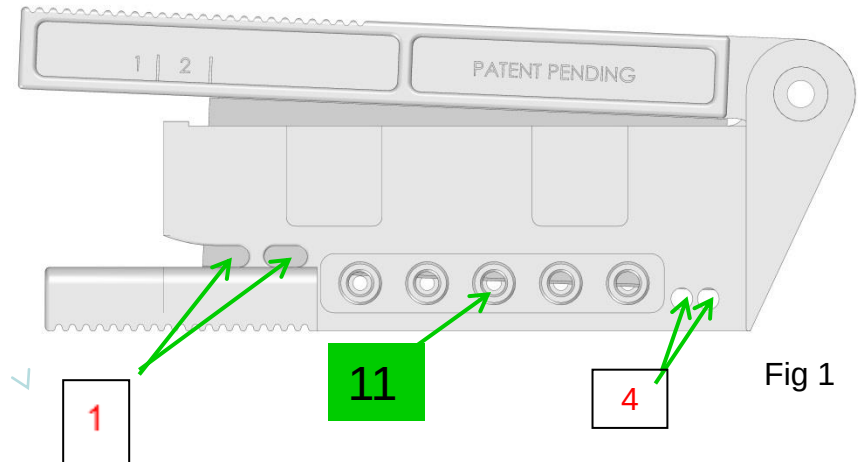

Fig 1
If necessary, use the tool to cut the plastic optical fiber from the cable spool or just finishing the bare cable in slots # 1 as shown in (Figure 1).
2. Slide the slit POF cable into the strip hole, Item 4 in Figure 1. You want to strip at least 1" of jacket off the cable.